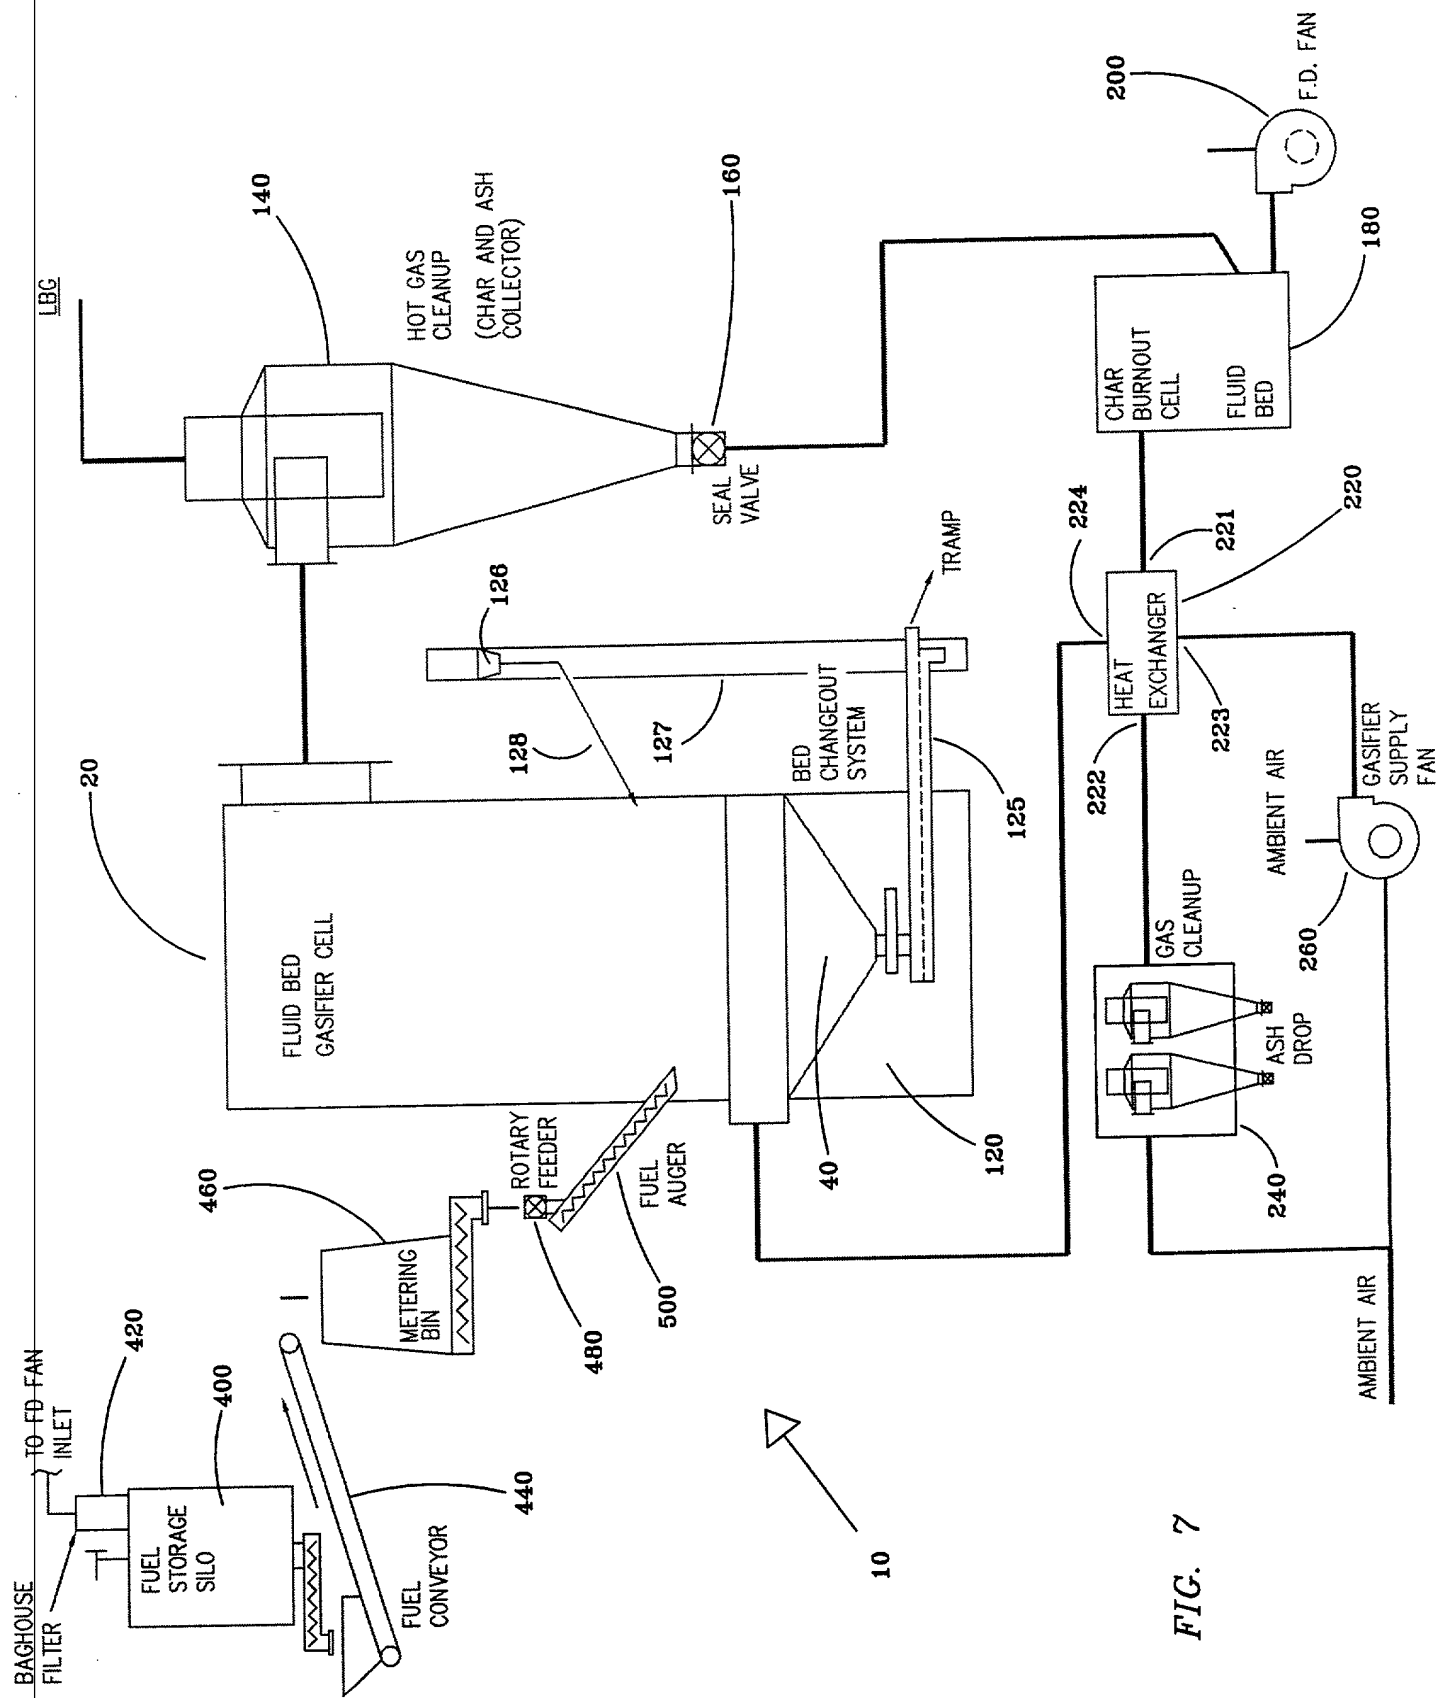

FIG. 7
FIG. 7 is a schematic diagram of a fluid bed gasifier system. The system includes a fuel storage silo (400) with a fuel conveyor (440) leading to a metering bin (460). A rotary feeder (480) and fuel auger (500) deliver fuel to the fluid bed gasifier cell (20). The gasifier cell is connected to a bed changeout system (120) which includes a tramp (125) and a seal valve (160). The gasifier cell is also connected to a hot gas cleanup (140) which is a char and ash collector. The hot gas cleanup is connected to a char burnout cell fluid bed (180) which is connected to a heat exchanger (224). The heat exchanger is connected to a gas cleanup (240) which includes an ash drop (260) and is connected to ambient air (220) via a gasifier supply fan (260). The gas cleanup is also connected to a gasifier supply fan (260) which is connected to ambient air (220). The gasifier supply fan (260) is connected to ambient air (220) via a gasifier supply fan (260). The gasifier supply fan (260) is connected to ambient air (220) via a gasifier supply fan (260).